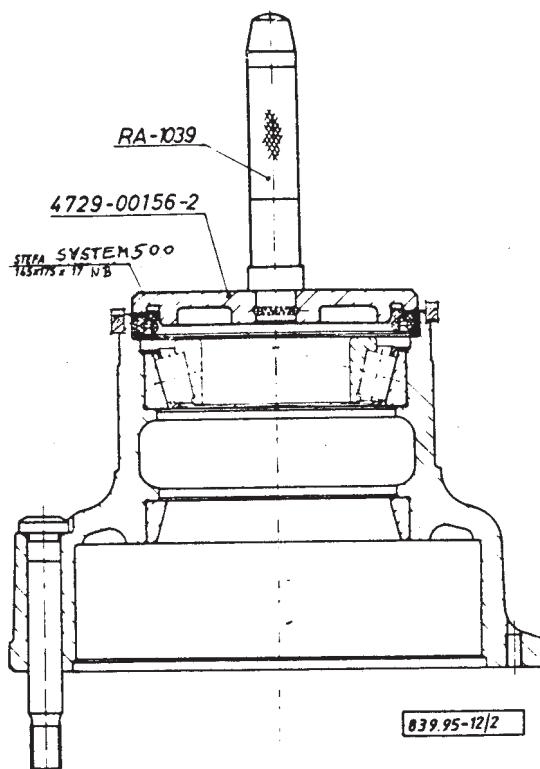

Fig. 3.: PRESSING IN THE SEALING RING
Position the inner part of the inner taper roller bearing (32) into the cup race. Apply thin coat of oil-resistant surface sealant to the sealing ring seat, then by means of the tools shown in **Fig. 3**. press the sealing ring (8) into the wheel hub.